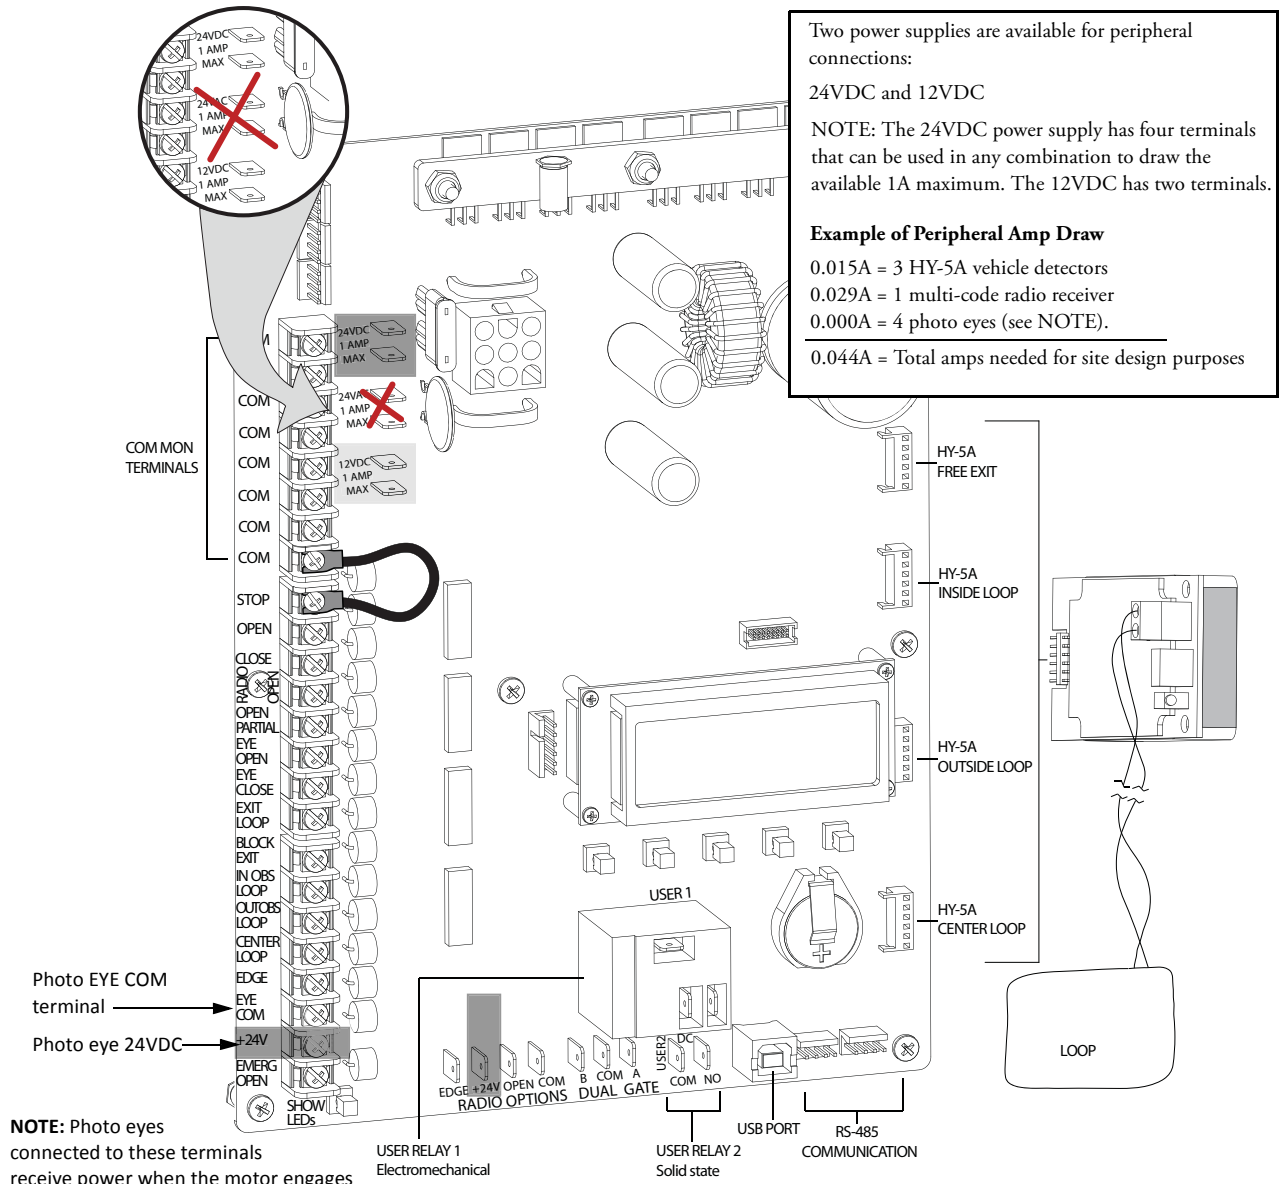

Figure 2-6.
- Battery storage capacity based on 4 solar hours per day. See Figure 2-6.
The 24VAC power supply shown in Figure 2-6 is not to be used for peripheral connections because the 24VAC terminals are directly connected to the solar panel inputs. Any peripherals attached to the 24VAC terminals could be severely damaged due to varying voltage levels.